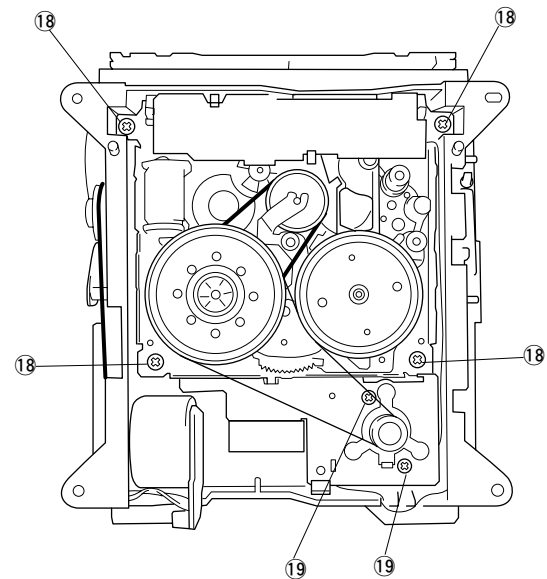

Fig. 14
Remove 4 screws (18) and then pull out the Cassette Mechanism in Fig. 14.
Remove 2 screws (19) in Fig. 14.